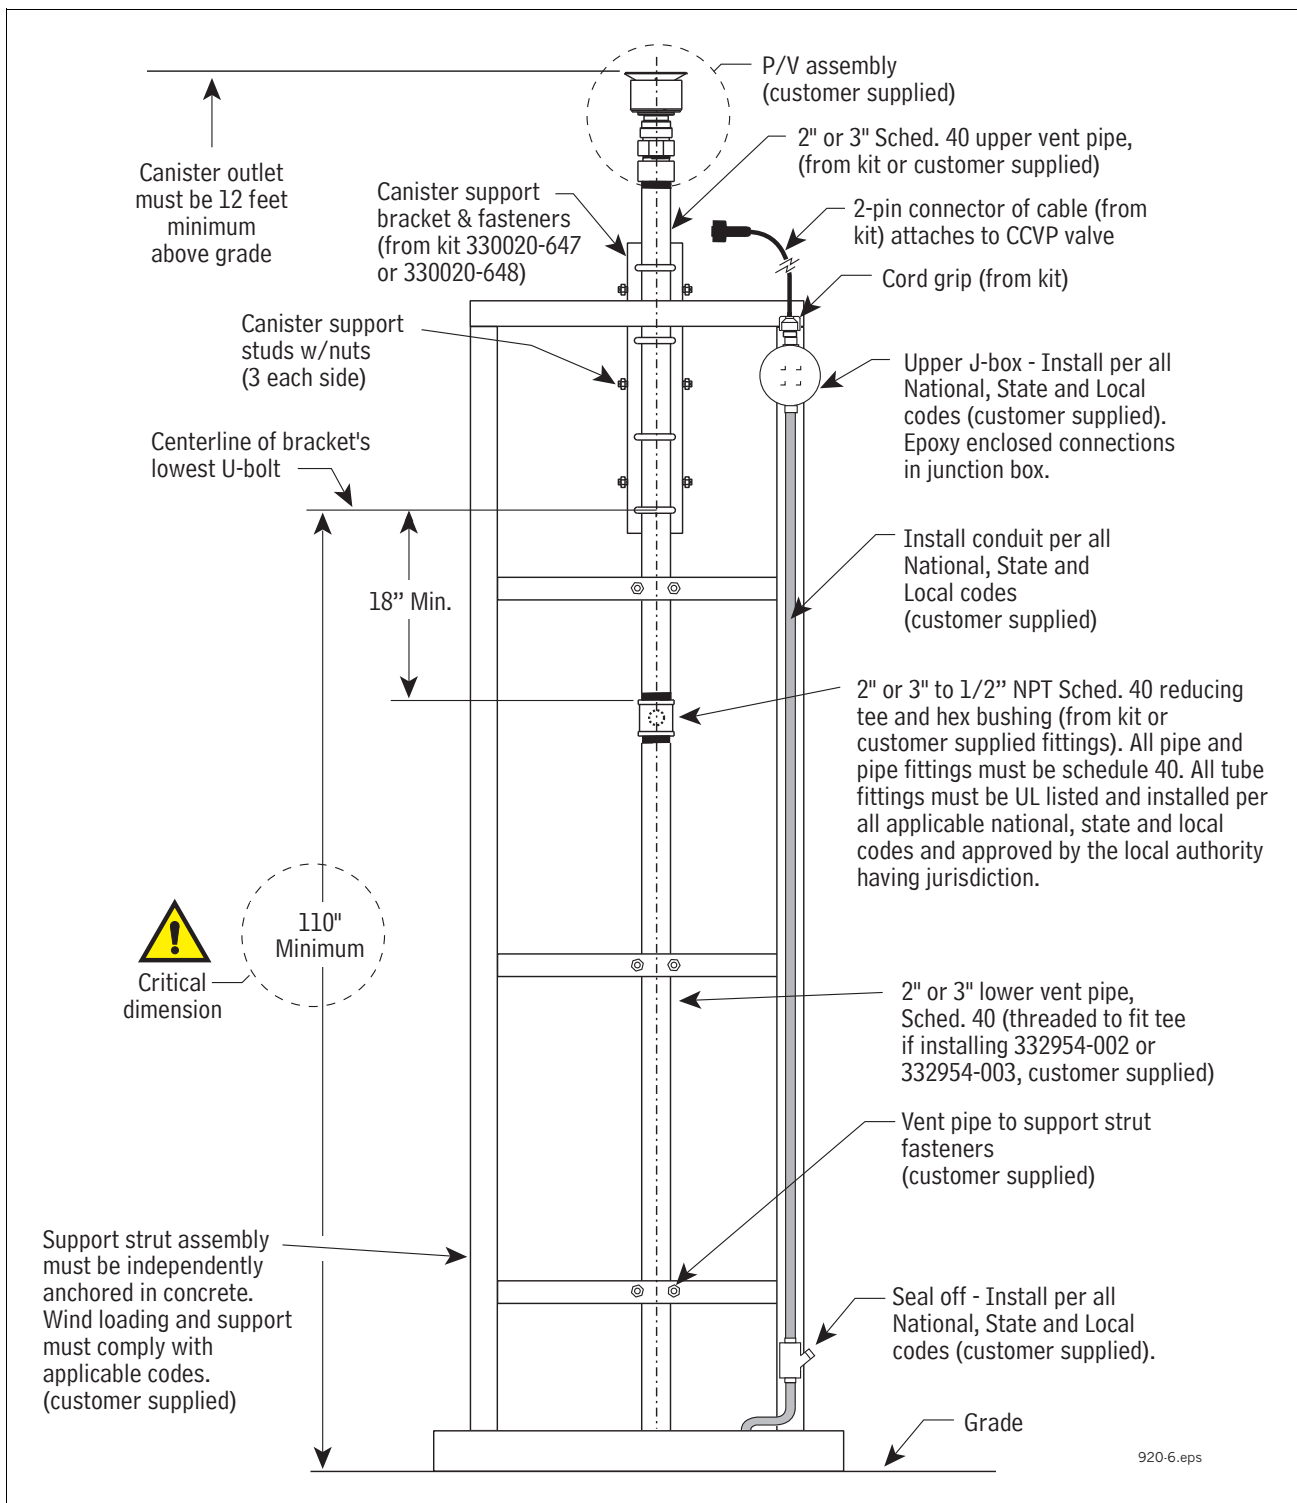

Figure 1. Typical direct wired installation example
- Consult Figure 1 along with the National Electrical Code and the compliance section of 576013-879 TLS-3XX or 577014-073 TLS-450PLUS Series Console Site Prep Manual, as appropriate, before installing the CCVP into the hazardous location. If the Carbon Canister is being wired directly to a TLS console, a 2-conductor, 18 AWG shielded cable must be installed in intrinsically safe conduit from the intrinsically safe wiring compartment of the TLS console to the carbon canister. Conduit for direct wired installations must be properly sealed in accordance with the latest National Electric Code (NFPA 70) and the Code for Motor Fuel Dispensing Facilities and Repair Garages (NFPA 30A) since they pass from a Class I, Division 1 or 2 hazardous area into a non-hazardous area.
**NOTICE** **IMPORTANT! To ensure that the canister outlet is 12 feet (minimum) above grade, the CCVP mounting bracket must be positioned according to dimensions shown in Figure 1 and the U-bolts tightly clamped to the support structure before mounting the canister. The mounting bracket must be centered in line with the outlet of the tee before installing the CCVP.**
8. Install a weather-tight junction box, seal off and conduit per all NEC, state and local codes (see example installation in Figure 1).